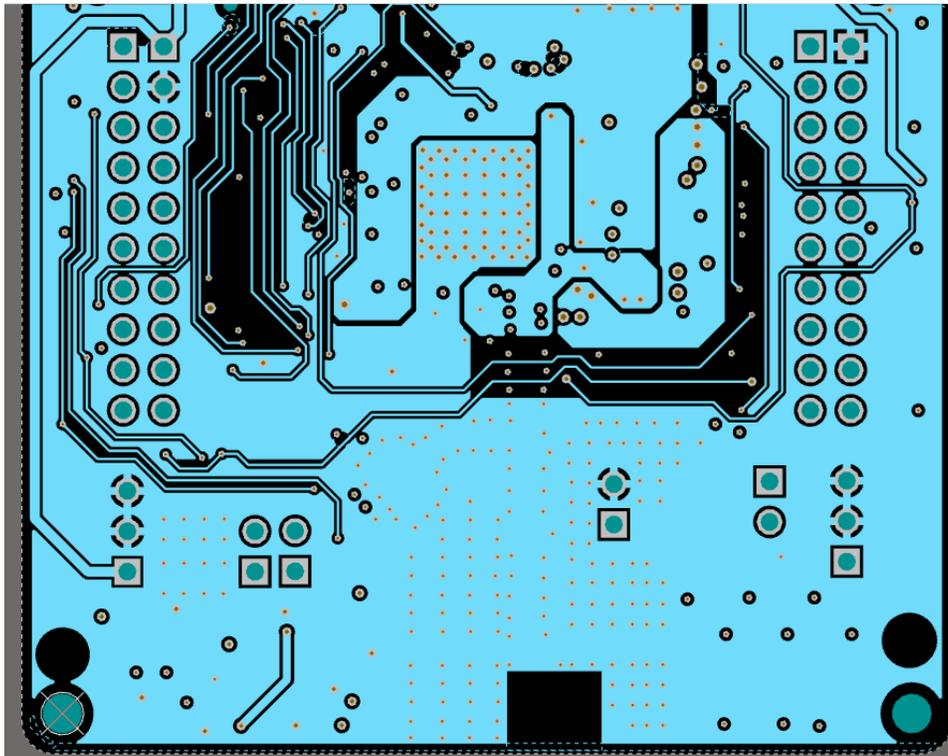

Figure 5. Layer 3
Figure 5 shows layer 3 (L3) which routes the power lines to the device. Power planes are necessary for the power amplifier (PA), and the main supply input to the device. More details are available in subsequent sections.